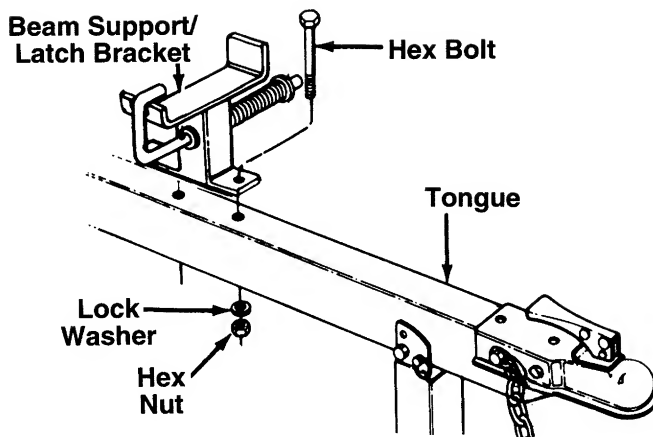

FIGURE 7.
2. Place the beam support/latch bracket on the tongue as shown in figure 7. Secure with hex bolts, lock washers and hex nuts just removed. Tighten securely.